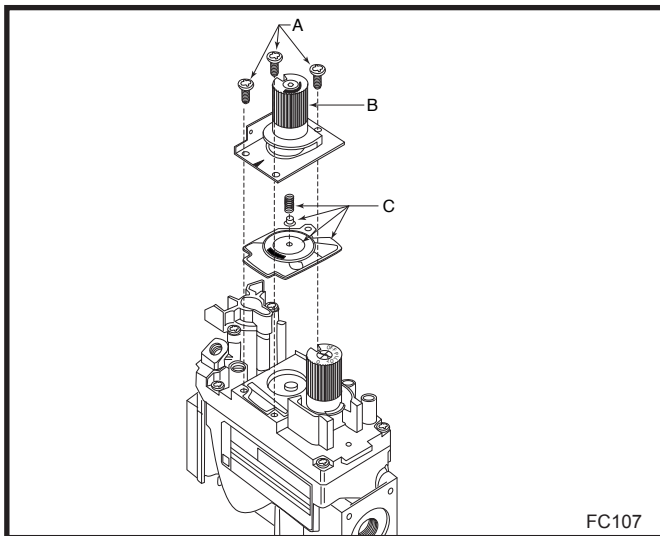

Fig. 37 Remove mounting screws, pressure regulator tower and spring and diaphragm assembly.
1. Using the TORX T20 bit, remove and discard the three (3) pressure regulator mounting screws (A), pressure regulator tower (B) and the spring and diaphragm assembly (C). (Fig. 37)